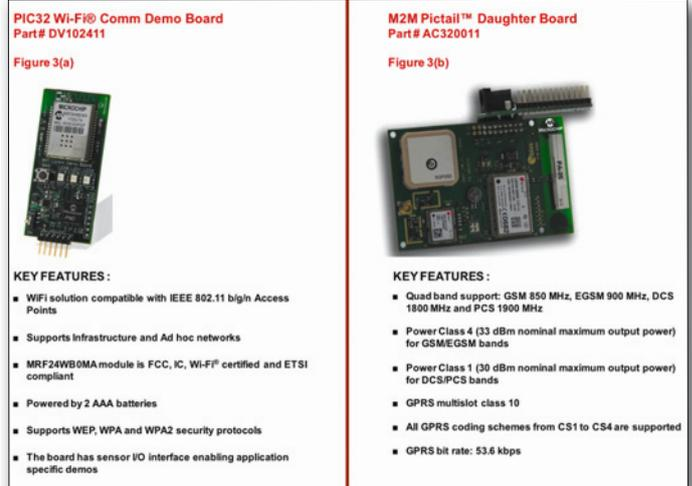

Figure 3. Microchip demo boards for M2M communication
The MCU controls the GPRS module using Attention (AT) commands for data transmission. The key factors for the selection of the embedded MCU should be a high throughput, sufficient memory, and a wide range of peripherals with support for Direct Memory Access (DMA). A proven and robust wireless protocol stack, such as Microchip MiWi, and access to a GPRS library is also useful to ensure a stable connection between the PAN and GPRS network. Using a development board, such as the Microchip PIC32 Wi-Fi Comm Board shown in figure 3(a), can also help to fast-track the development of a wireless application.
Fleet management has become a popular application for M2M technology. Vehicles fitted with GPS devices are tracked and their positions communicated back to the monitoring system using GPRS or GSM modules. The GPS module is used to provide the position coordinates for the vehicle, whilst the CAN bus is used to collect data from different modules within the vehicle, such as the antilock brake system (ABS), engine control unit (ECU) and airbags. A 32-bit microcontroller provides the engine for a CAN/GPRS gateway by interfacing to the CAN bus, as well as to the GPRS and GPS modules, and translating CAN data into the GPRS format before sending it over the GPRS network to the Fleet Management Station. The Microchip M2M PICtail daughter board contains GPS and GSM/GPRS modules which are equipped with many AT commands in addition to the wide range of features shown in figure 3(b). The M2M PICtail board provides all the hardware information, software binaries including the stack, production test bench design and test software, certification, training and documentation to enable an accelerated time-to-market. It enables a wireless, ultra-compact, low-power communications solution for easy integration into high-volume consumer, industrial and automotive designs. The emergence of high-speed 4G communication and Internet Protocol